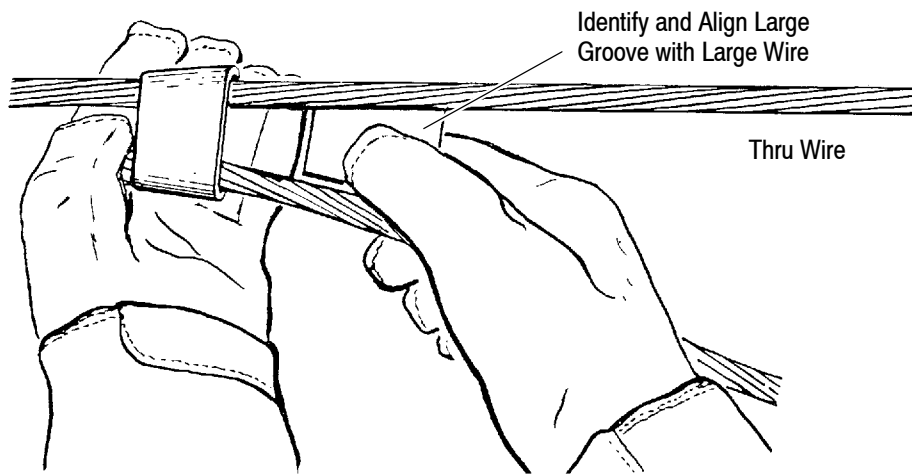

Figure 13
3. Observe the code letter or number on label or on back of wedge groove. Identify and align the large groove with the large wire. With both wires in the “C” member, push wedge between them finger tight. Wedge should go into “C” member about half its length. See Figure13.